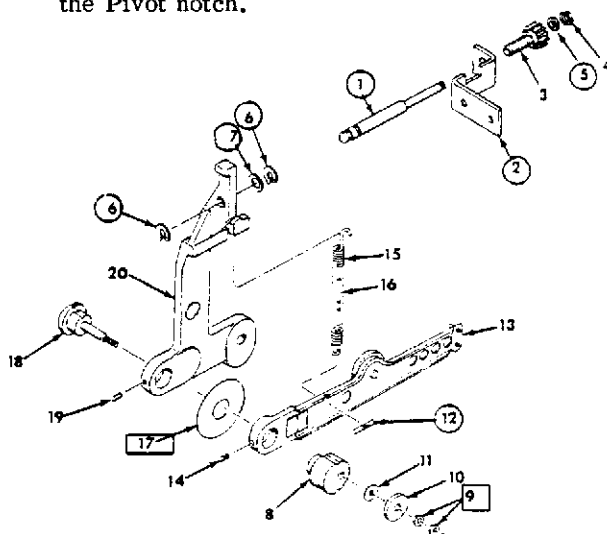
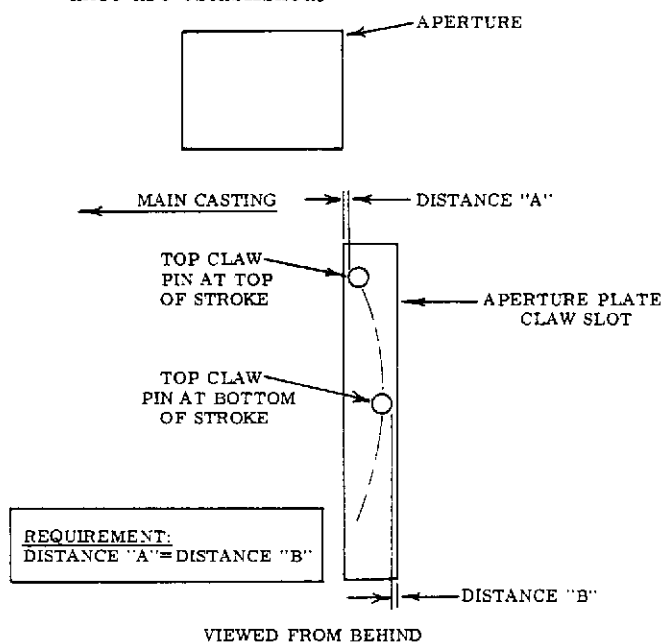

Figure 3-21. CLAW ARM ADJUSTMENTS
Figure 3-22. SIDE CLEARANCE
A good starting position for the Pivot (18) (Figure 3-21) places its eccentric pin at about 7 o'clock when viewed from the front of the projector. (See Figure 3-25) The notch in Bushing (8) should be slightly below the notch in Pivot (18) so an imaginary line drawn across the top of the Bushing notch aligns with the bottom of the Pivot notch.
Before attempting any adjustments, manually rotate the inching knob to make sure the Claw Arm pins do not strike the sides of the Aperture Plate Claw Slot. At the top of the Claw Arm Stroke, the Top Claw Arm Pin will be nearer the inside edge of the Aperture Plate Slot (Figure 3-22). At the bottom of its travel, this Pin will be nearer the outside edge of the Aperture Plate Slot. Loosen Screw (14) and adjust Bushing (8) (Figure 3-21) so these two distances are equal. (Removing the Lamphouse Cover and viewing the Pins from behind the Aperture Plate aids in this adjustment.)
1. Thread an old film in the projector (do not use a good film for this adjustment) and adjust the Framing Knob to eliminate any frame lines at the top or bottom of the projected image with the projector running in FORWARD. If excessive noise results when the Framing Knob is moved, stop the projector and check the location of the Claw Arm Pins in the sprocket holes of the film. When Framing is correct, the Top Claw Arm Pin should be the same distance from the inside edge of the sprocket hole at the top of its stroke as it is from the outside edge of the sprocket hole at the bottom of its stroke (Figure 3-22). Loosen Screw (14) and adjust the Bushing (8) (Figure 3-21) so these two distances are equal. Remove the film from the projector after proper Framing and Side Clearance are established.
8. Adjust stroke by placing the Shuttle Cam Adjusting Tool (ST- 5884) on the Claw Arm Pivot (18) (Figure 3-21), loosening Screws (14) and (19) and rotating the Pivot (18) and Bushing (8) the same amount in the same direction simultaneously. Turn counterclockwise (as viewed from the front of the projector) to shorten the stroke, and clockwise to lengthen the stroke (Figure 3-25).
sprocket hole at the top of its stroke as it is from the outside edge of the gauge sprocket hole at the bottom of its stroke. (Figure 3-22)
Loosen Screw (14) and adjust the Bushing (8) (Figure 3-21) so these two distances are equal.